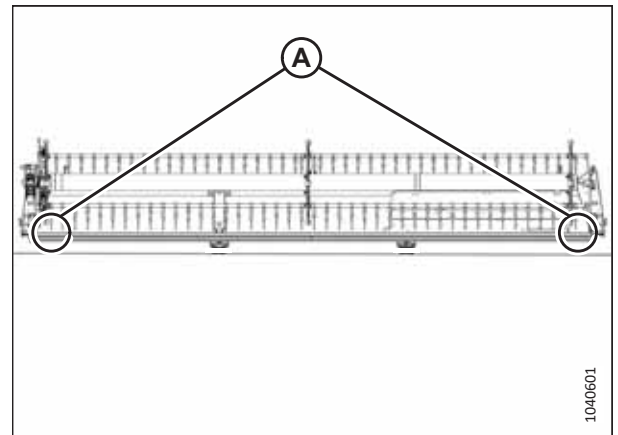

Figure 4.274: Single-Reel Header Measurement Locations
- Figure 4.274, page 409 – single-reel headers